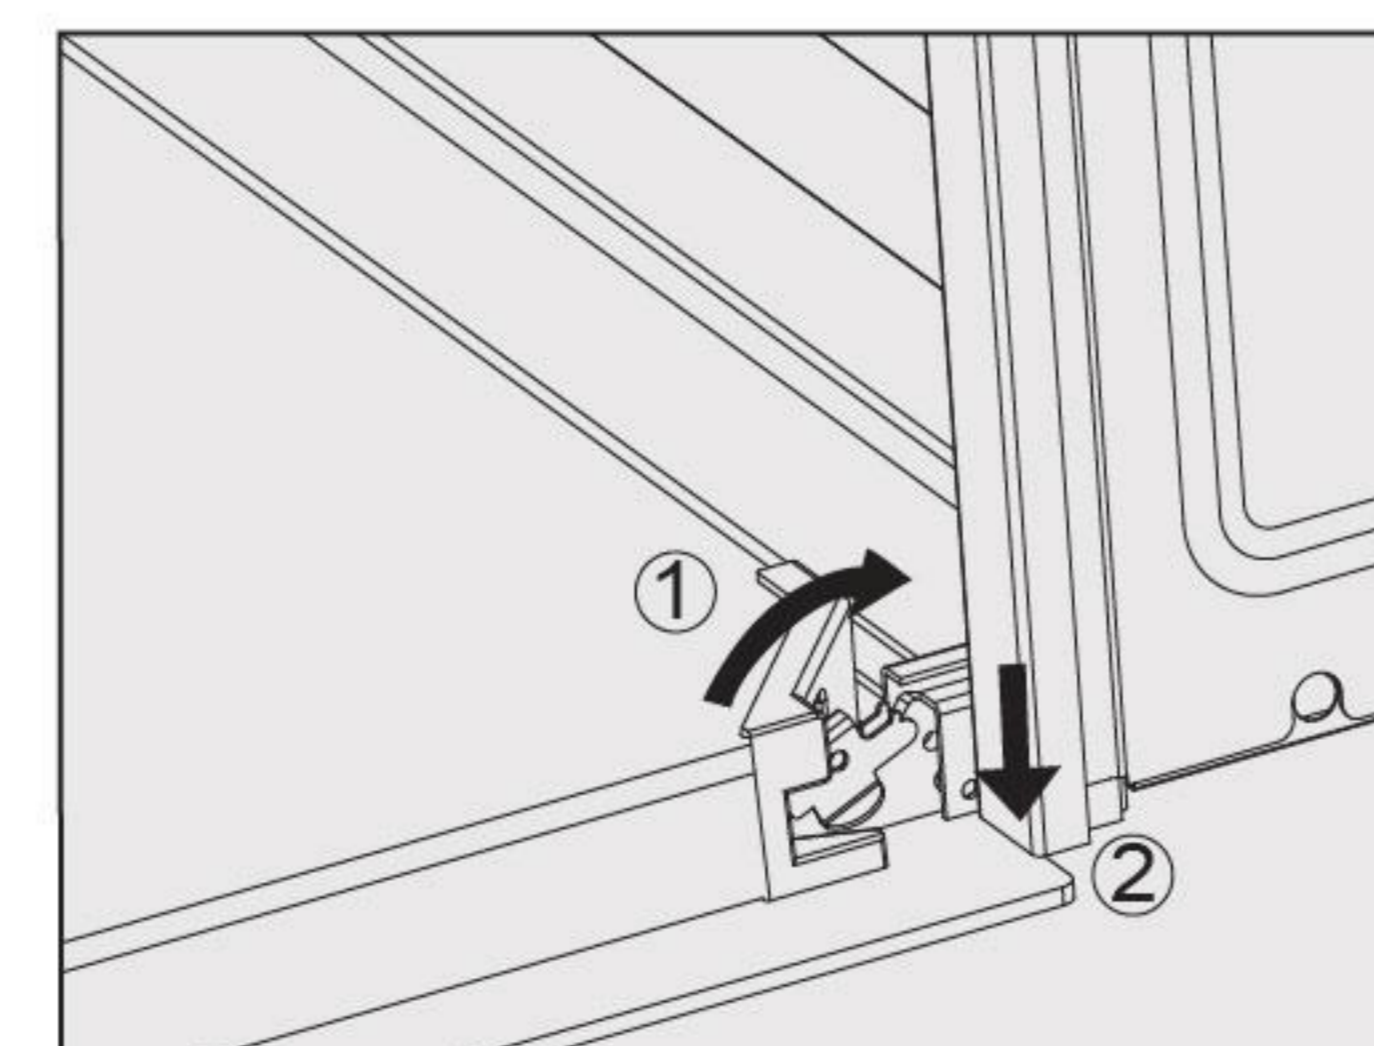

fig.5
- Flip both locking clamps back up as far as they will go into a horizontal position. (fig. 5)